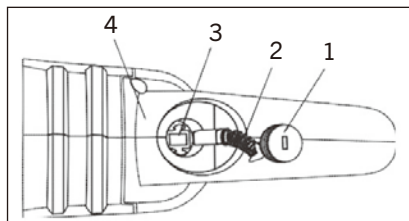

FIG. 8
1. Use a 3/16" (5 mm) slot screwdriver and remove one brush cap (1) (Fig. 8). Turn the brush cap counter-clockwise to remove it from the motor housing.
2. Pull the spring & brush assembly (2) from the brush holder (3) in the motor housing (4).